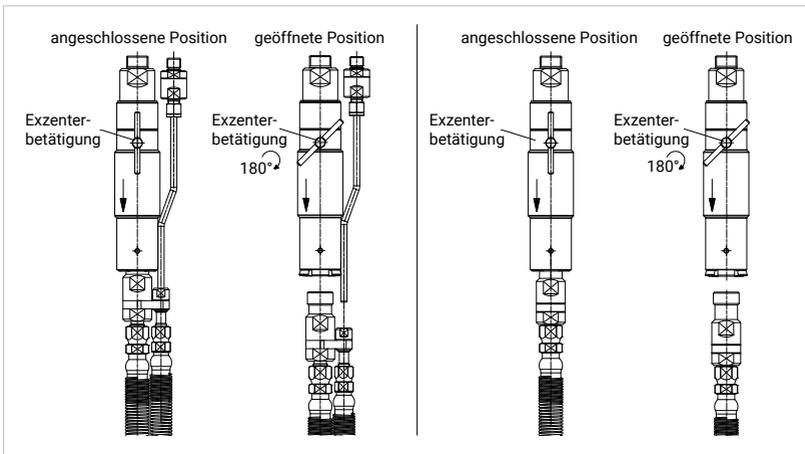

Figure 16
- ▶ Rotate the lever of the eccentric actuator (Pos. 2) by 180° (*Figure 16*) → the clamping jaws will open